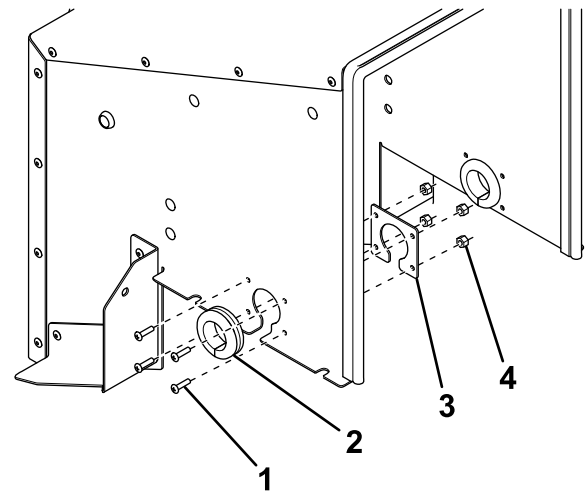

Figure 14
2. Secure the grommet plate to the inside of the rear cover using 4 bolts (#10 x 3/4 inch) and nylon nuts (Figure 14).
3. Insert the rubber grommet into the opening on the grommet plate (Figure 14).